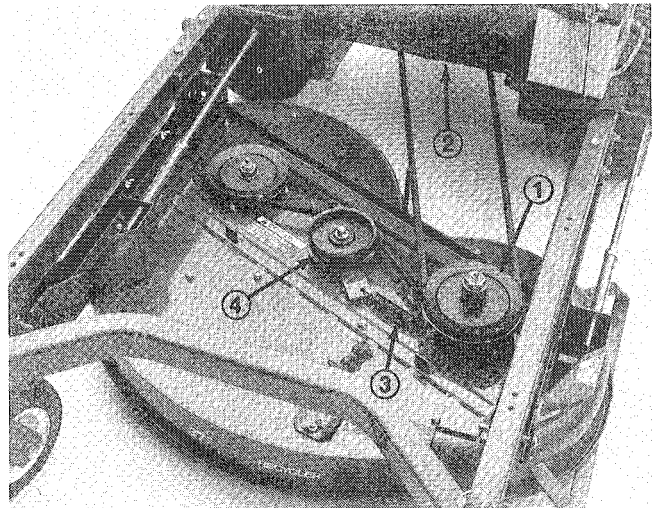

Figure 19
4. Install new belt around spindle pulleys and idler pulley (Fig.19).
5. Install belt to drive and clutch pulley (Fig. 19).